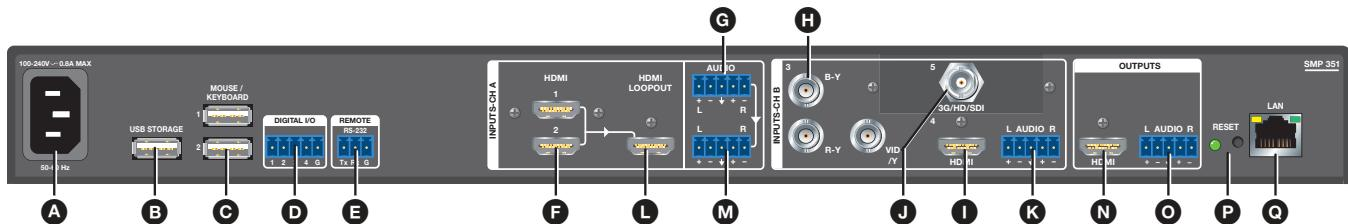
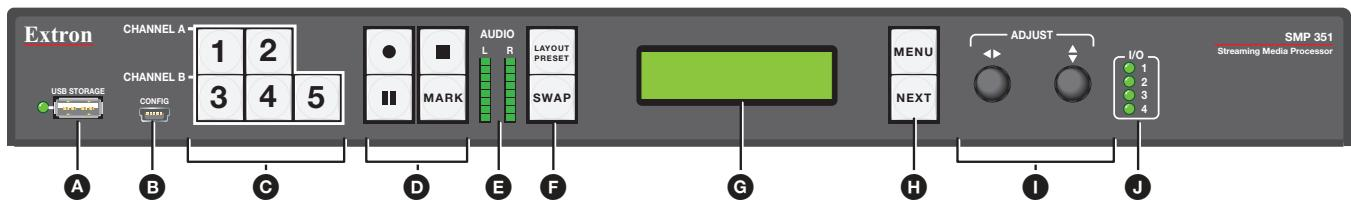

Figure 4. SMP 300 Series Rear Panel (SMP 351 3G-SDI shown)
Figure 8. SMP 300 Series Front Panel
- A 100-240 VAC power input** (see figure 4 on page 15) — Connect the provided IEC cord. Verify the front panel buttons and LCD illuminate (see Front Panel Menu Operation on page 26).
The SMP 300 Series can be configured and controlled from the Remote RS-232 port (see figure 4, **E** on page 15) or the front panel USB mini-B Config port (see figure 8, **B** on page 21) using SIS commands with DataViewer. A standard web browser can be used for control and configuration from the LAN port. Because the LAN port must be connected for streaming output, Extron recommends using it for configuration, remote control, and firmware upgrades.
- C USB keyboard and mouse, or RCP 101** — Connect a keyboard and mouse to the two USB type A ports. With a keyboard and mouse connected, the user can toggle <Ctrl + ALT + S> the HDMI output (see figure 8) between the standard preview output and the internal browser view.
The audio and video inputs are grouped into channel A and channel B (see figure 4 on page 15).
N **HDMI preview output** — Connect an HDMI (or DVI with suitable adapter) display device to this HDMI output (see figure 4 on page 15). Using an attached USB keyboard and mouse, the preview output can be switched between a preview of the recorded content and an internal browser client.
The **Reset** button on the rear panel of the SMP 300 Series (see figure 4 on page 15) returns the SMP 300 Series to various modes of operation. There are three unit reset modes (numbered 1, 4, and 5) that are initiated from the rear panel reset button. To select different reset modes, use a pointed stylus or small screwdriver to press and hold the **Reset** button when the SMP 300 Series is powered on or press and hold the **Reset** button while applying power to the SMP 300 Series.
B **Config port** (see figure 8 on page 21)— Connect a control device to this port with a USB mini-B cable (not supplied). Use this port to send SIS commands to the SMP 300 Series for device configuration and control (see Remote Communication and Control starting on page 106).
F **Layout Preset** (for composite mode only) **and Swap** — Press **LAYOUT PRESET** to select one of the 16 capture presets (see Layout Presets \(For Composite Mode Only\) on page 23). The button illuminates green. Use the **ADJUST** knobs (see figure 8,  on page 23) to select the desired output layout. Press **NEXT (H)** to activate it.
G **Menu display** — Displays configuration menus and status information. Use the **MENU** and **NEXT** buttons (see figure 8 on page 21, **H**) and **ADJUST** knobs (**I**) to navigate the menu. During normal operation, a default display cycle is presented (see Power Up Procedure on page 25). If there is an active alarm (see Alarms on page 49), it is listed instead.